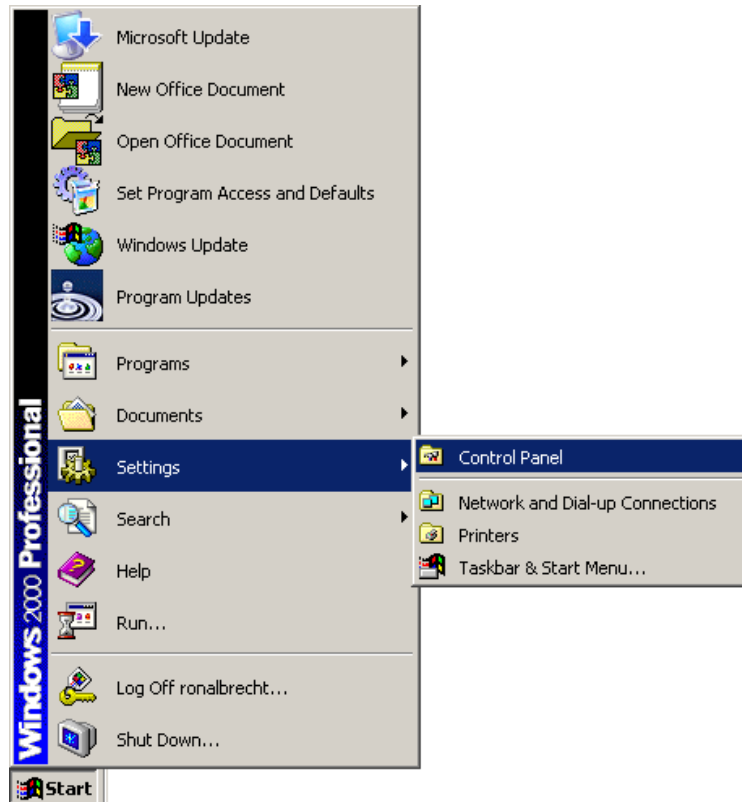

Figure 7-40: Access Windows Control Panel
Step 1: Open **Windows Control Panel** (Figure 7-40).